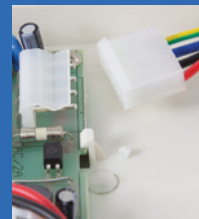

Fig 3. connector
5. Connect pre-wired connector block to the circuit board as shown (fig 3).